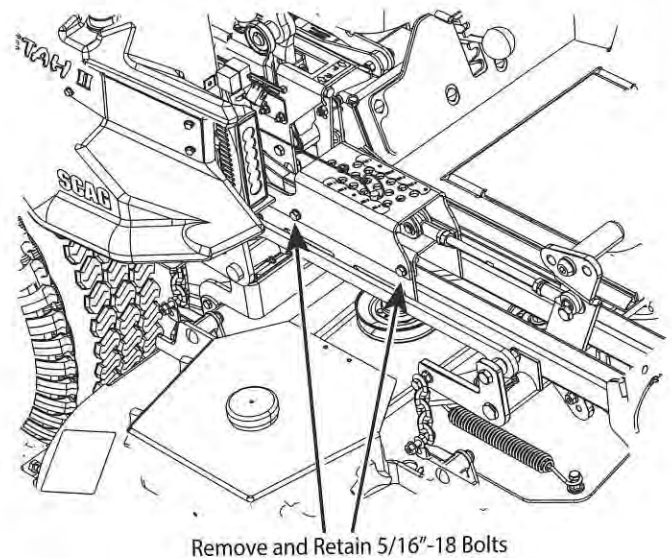

Figure 3-35. STC II Hardware Removal
1. Remove and retain the two (2) 5/16-18 x 1 1/4" bolts securing the cutting height bracket to the frame. See Figure 3-35.